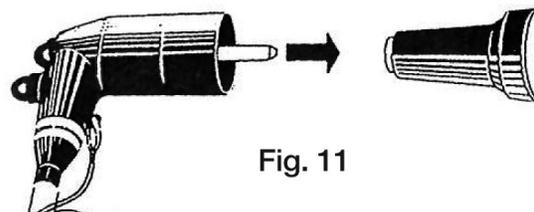

Fig. 11
- E. Twist neutral wires into a braid and connect to system ground. Make sure connection is secure and tight. Provide sufficient slack in ground braid for elbow operation. See Figure 11.